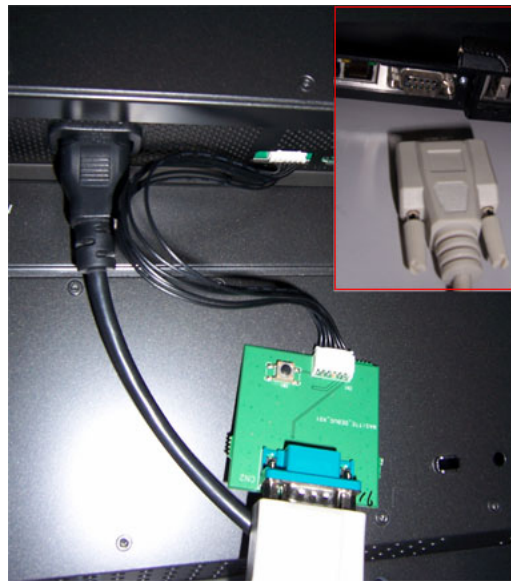

Figure 1
Fine Line Morie Pattern (Figure 1)
- (1) Power on the target system (Information Display).
- (2) Connect the supplied cable from the PC's RS-232 port to the target system's update port (as shown in Figure 1).
- 1.1 Paste protection film to protect LCD TV. (Figure 1)
(Figure 1)